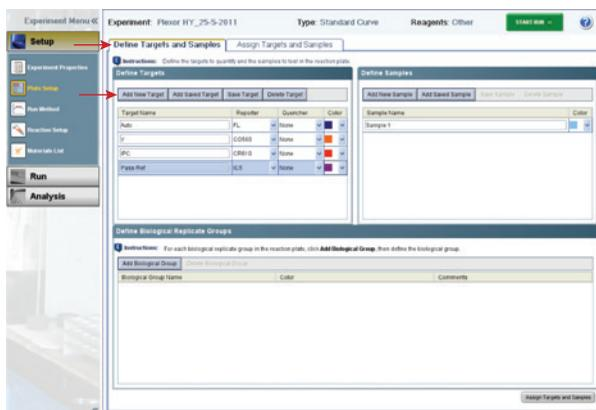

Figure 13. Plate Setup screen.
- Select “Plate Setup” from “Setup” menu in left sidebar. Select “Define Targets & Samples” tab (Figure 13). Click four times on “Add new Target”, and enter the following: